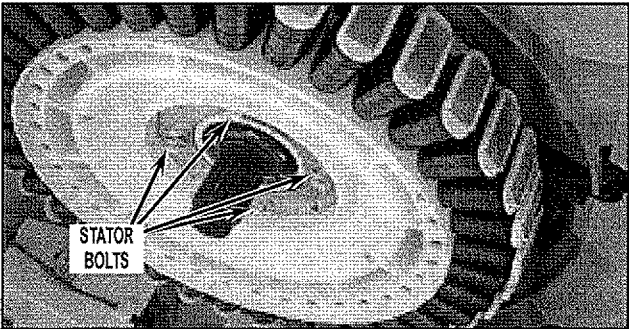

FIGURE 5
9. Remove four (4) stator bolts (5/16" or 3/8"). Unclip wire harness and remove stator. Set stator on a clean rag on the floor. See Figure 5.